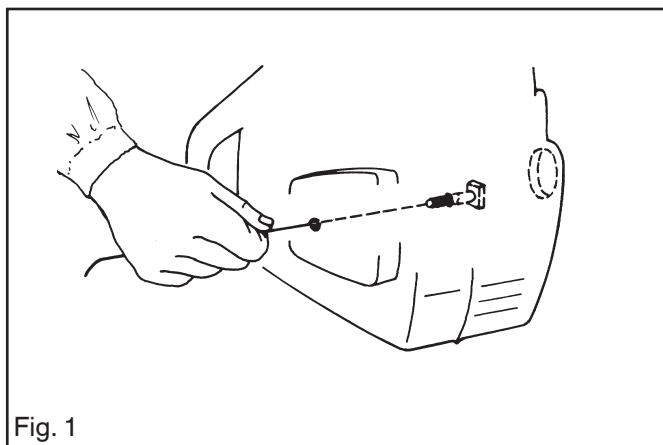

Fig. 1
1. Fix a piece of steel wire on the end of the new bolt, and thread it through the oil tank and out through the bolt hole in the crankcase. See fig. 1.